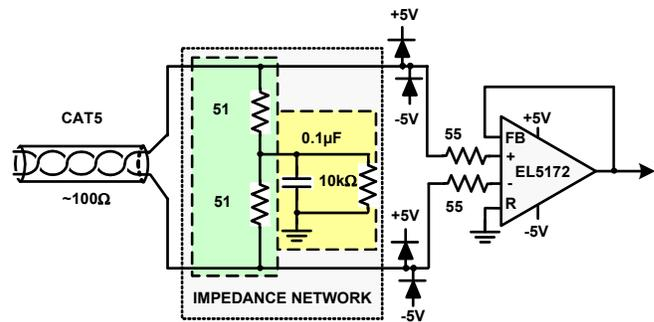

FIGURE 3. $\pm 3.5V$ CMV CIRCUIT
1. **$\pm 3.5V$ CMV Circuit** - The first circuit, Figure 3, is a Cat 5 to Coax converter with $\pm 3.5V$ CMV, which relies on the amp's CMV range while converting differential input to single-ended output. We used the EL5172 for NTSC and PAL in a simple unity gain configuration. We can use the same circuit with a higher bandwidth op amp, the EL5375 or EL5378, for RGB video (only the EL5172 circuit is shown for reference). The 55 Ω resistor right at the input to the amplifier is to reduce possible feedback generated oscillation and should be placed as close to the inputs as possible. Note the ESD clamp diodes location for ESD protection.